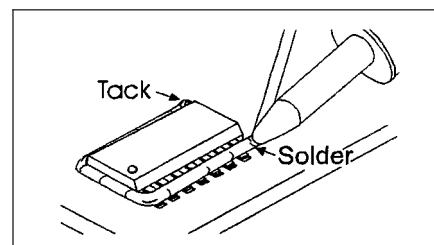

Figure 1 Tack and Wrap Solder
4. Tack solder to one of the corner component leads using the soldering handpiece with a chisel tip installed. Wrap solder around the four sides of the component. Tack solder at the end of the last side. (See Figure 1.)